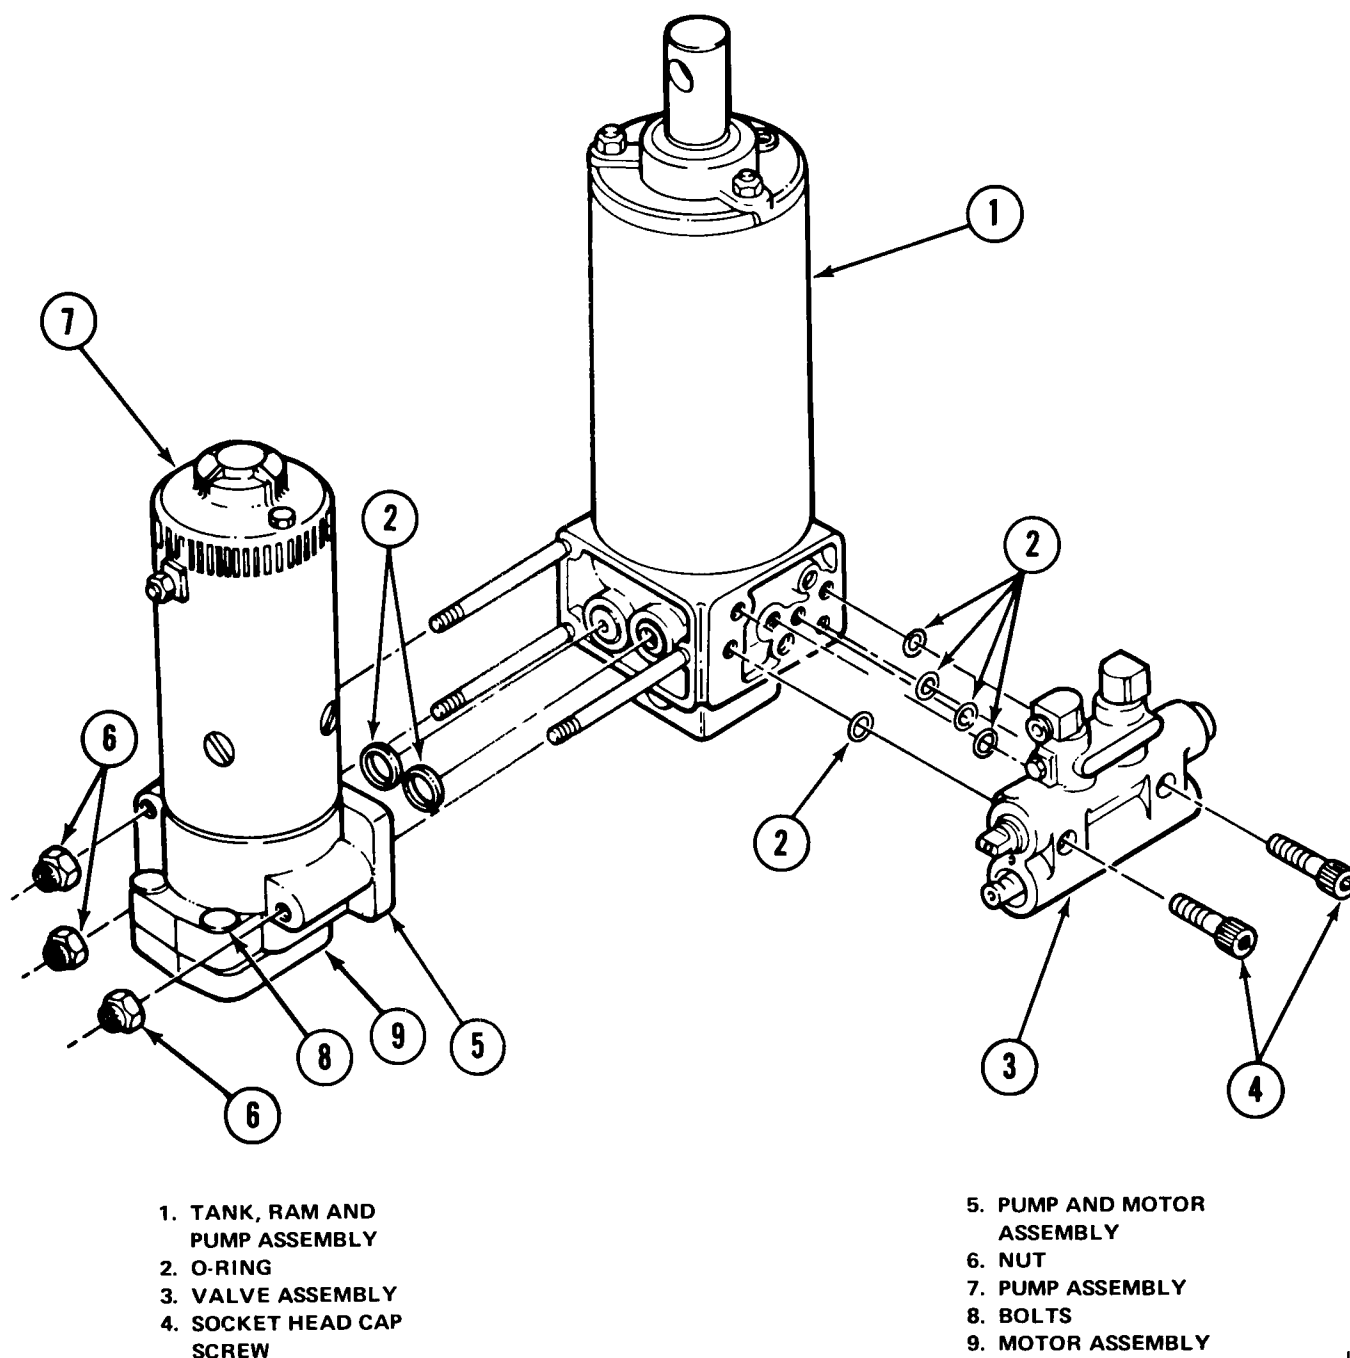

Fig. 1-43 Super Electrolift Subassemblies
(1) Remove nuts and pull pump and motor assembly away from tank, ram, and pump assembly (fig. 1-43). Discard O-rings.
(2) Loosen bolts at top of motor and separate motor from pump.
(2) Install O-rings in their respective grooves (fig. 1-43). Install valve assembly with O-ring into base with socket head capscrews. With ram fully lowered,